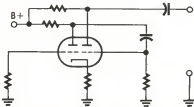

FIG. 8
8. The circuit in Fig. 8 is a: